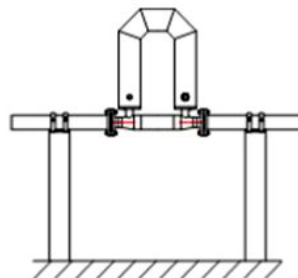

Figure 2
2. The meter should be installed upward when measuring gas flow (Figure 2), so that liquid cannot get trapped inside the tubes.